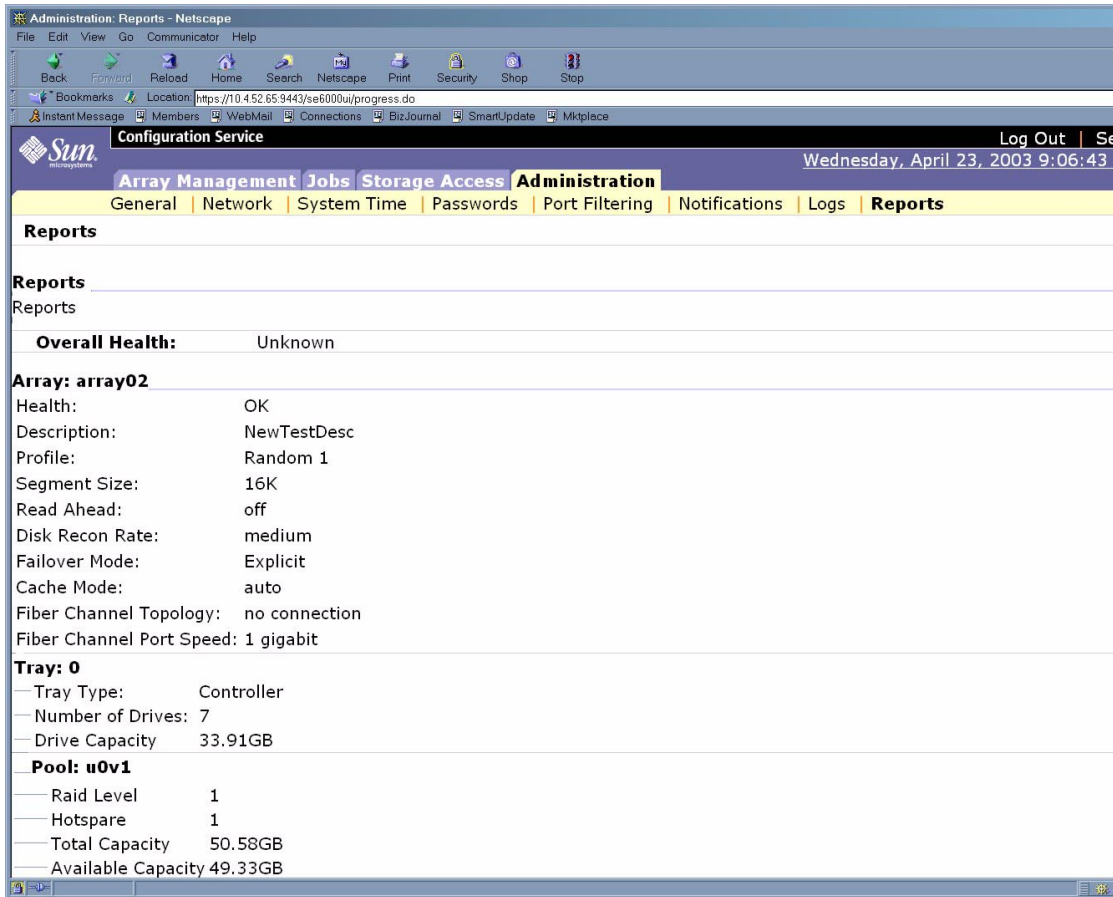

FIGURE 6-12 The Report Page
5. Click on Reports and the Reports Page is displayed as shown in FIGURE 6-12.